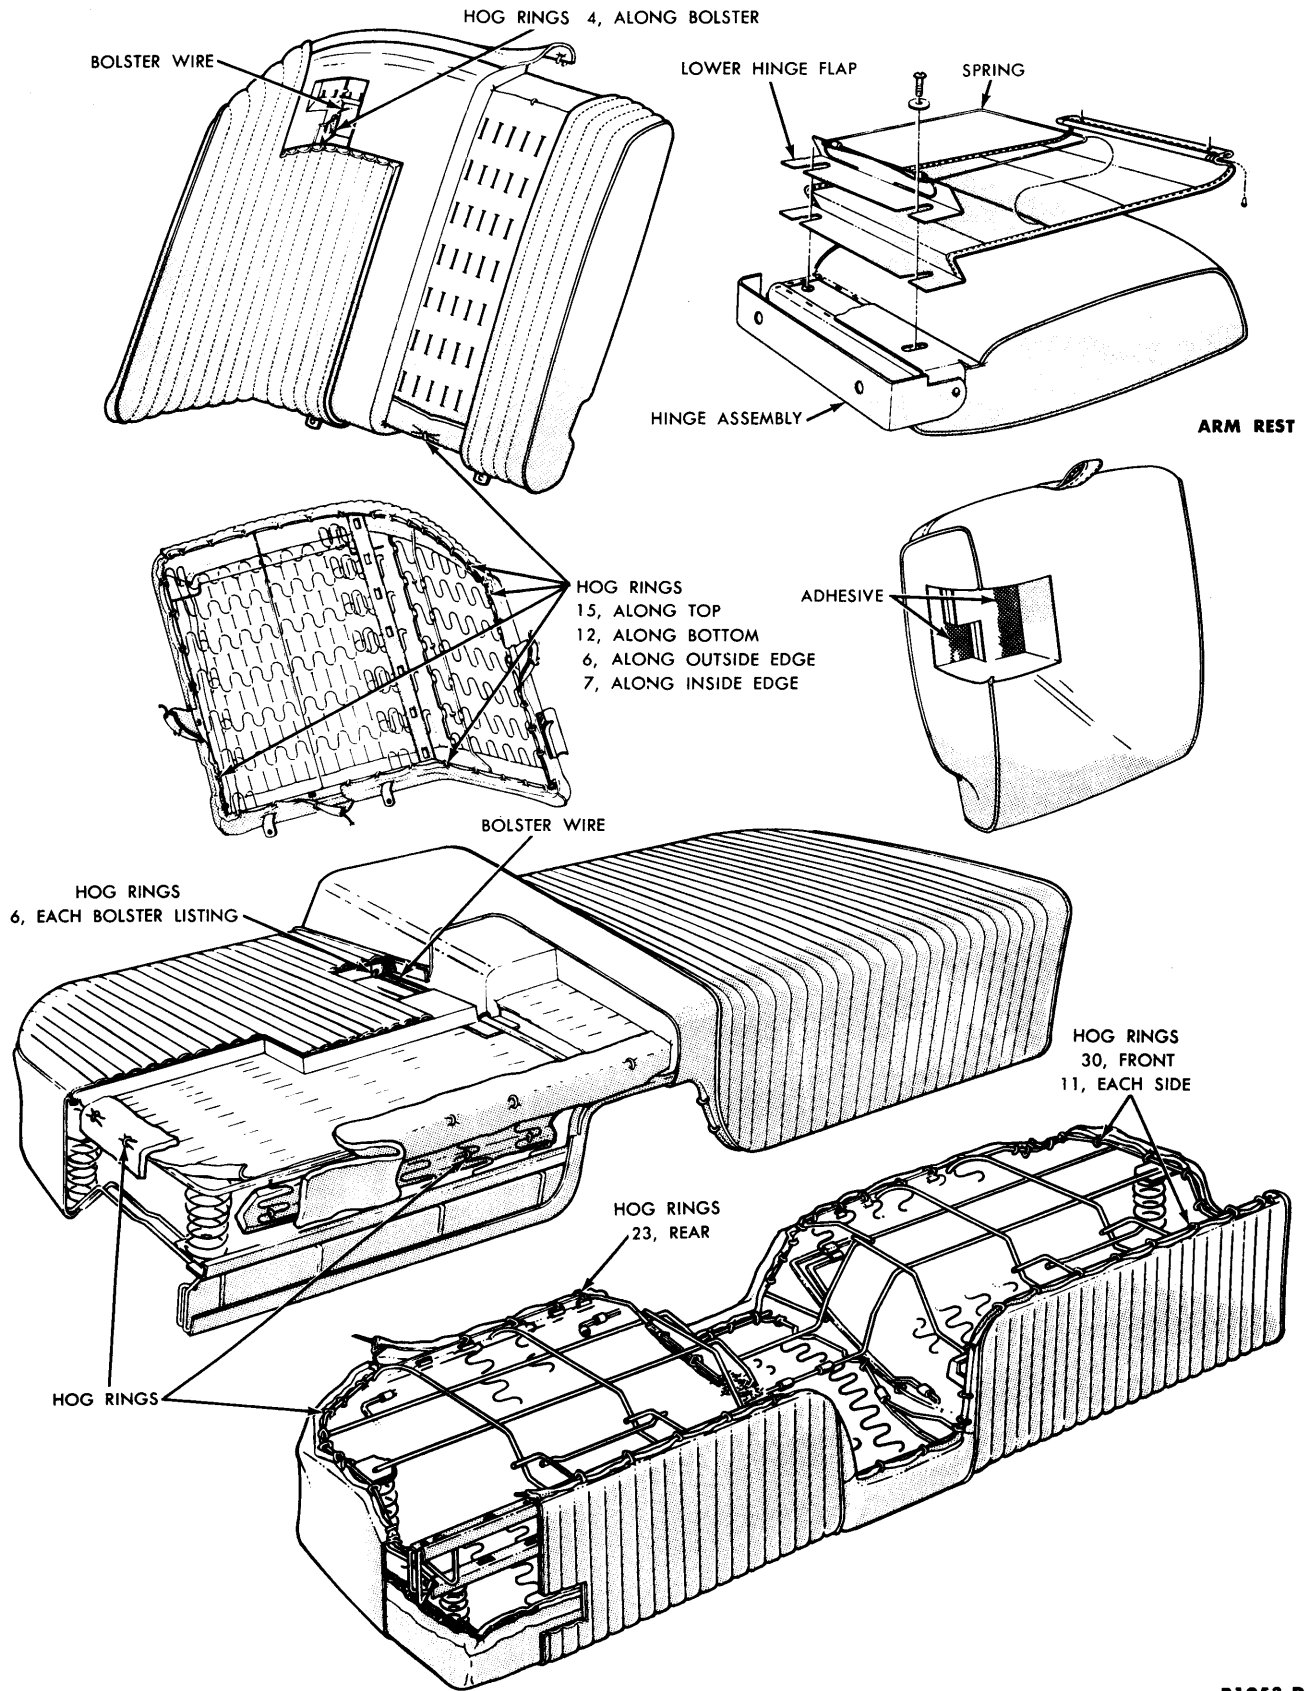

FIG. 9—Rear Seat Back, Cushion and Arm Rest Trim
1. Raise the front of the rear seat cushion and lift the cushion assembly from the car. Place the cushion on a clean work area. Remove the hog rings retaining the cover to the spring assembly (Fig. 9).
5. Carefully turn the cushion upside down and with 87 hog rings attach the cover to the bottom of the spring assembly (Fig. 9). Install the seat cushion in the car.
2. Remove the hog rings retaining the cover to the spring assembly (Fig. 9) and remove the cover. Inspect the pad and spring assemblies, and repair or replace as necessary.
along the top, sides, and bottom of the spring assembly with 44 equally spaced hog rings (Fig. 9).
The outer trim cover of the rear seat back center arm rest is held to the base with 24 staples as shown in Fig. 9.